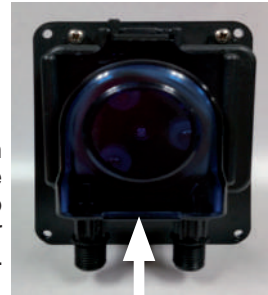

Figure 2.
2. Push up on the raised edge of the front cover and slide cover off. See Figure 2.